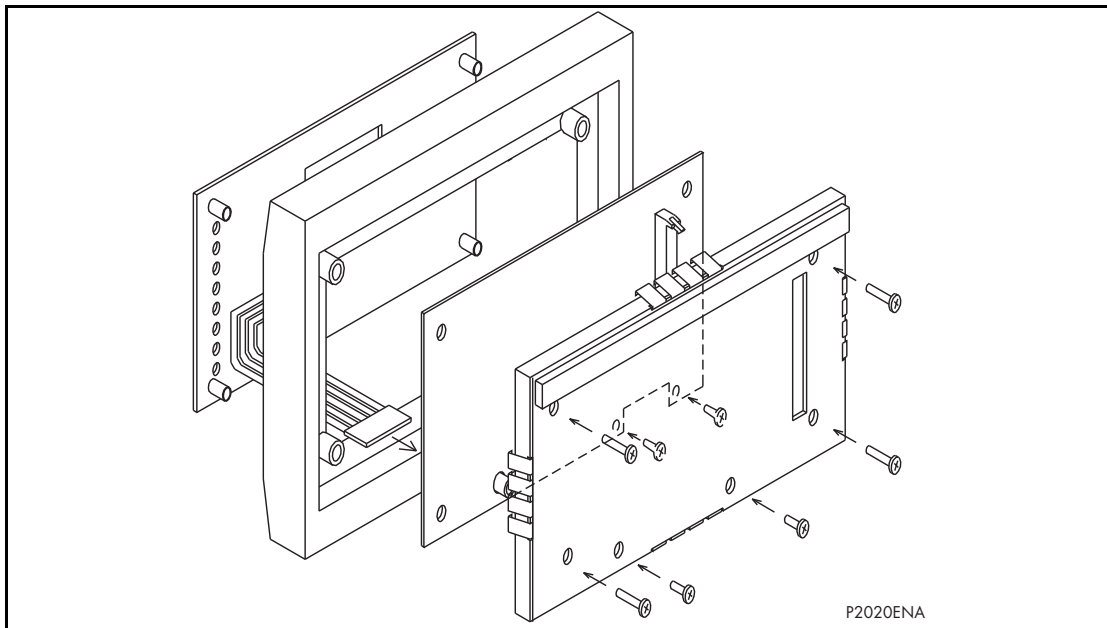

Figure 2: Front panel assembly
1. Place the front panel with the user interface face-down and remove the six screws from the metallic screen, as shown in Figure 2. Remove the metal plate.